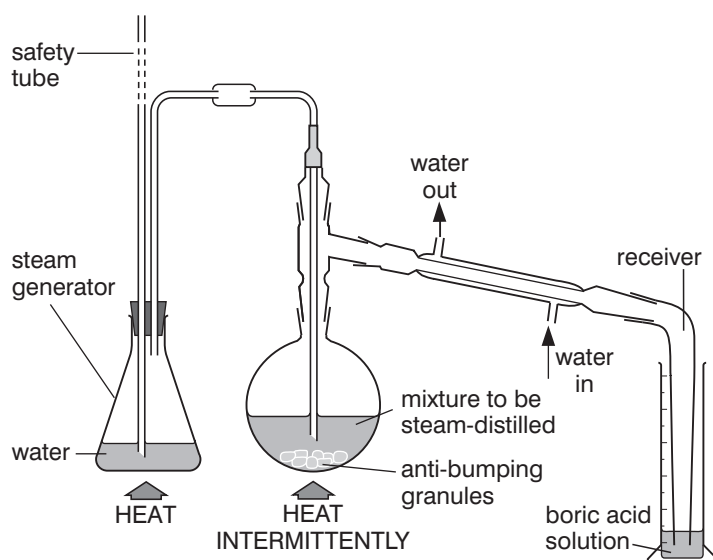

Figure 1 Apparatus for steam distillation
- 250 cm³ conical flasks (2) and bung
- apparatus for steam distillation (Figure 1)
- Set up the apparatus for steam distillation, as shown in Figure 1.
- 9 Set up the apparatus for steam distillation as shown in Figure 1. Put 5 cm³ of boric acid in the measuring cylinder you are using to collect the ammonia solution.
- 10 Devarda's alloy contains copper and aluminium and acts as a reducing agent. It reduces nitrate(V) ions to ammonia in alkaline solution. Place 50 cm³ of the filtrate from Part 1 into the round-bottomed flask, and add 0.5 g of Devarda's alloy and 0.5 g of magnesium oxide. (The MgO reacts with the NH₄⁺ ions, liberating ammonia.) Steam distil the mixture as described in steps 5 and 6 until you have collected 40 cm³ of distillate. During the distillation, one of you should set up a burette filled with 0.00500 mol dm⁻³ sulphuric acid ready for the titration.
Figure 1 shows a modified version of the diagram of the nitrogen cycle from **Storyline AA3**. The reserves of nitrogen in the soil and in the atmosphere are shown, but the ovals showing the nitrogen fluxes have been left blank.
- Refer to the section on the nitrogen cycle in **Storyline AA3**. Mark on Figure 1 the formulae for the different forms of inorganic nitrogen in the cycle to show the conversion from one form to another.
Figure 1 The nitrogen balance in UK agriculture (Source of figures: Royal Society 1983; MAFF 1984). Numbers to be inserted are totals for the UK in thousands of tonnes N per year